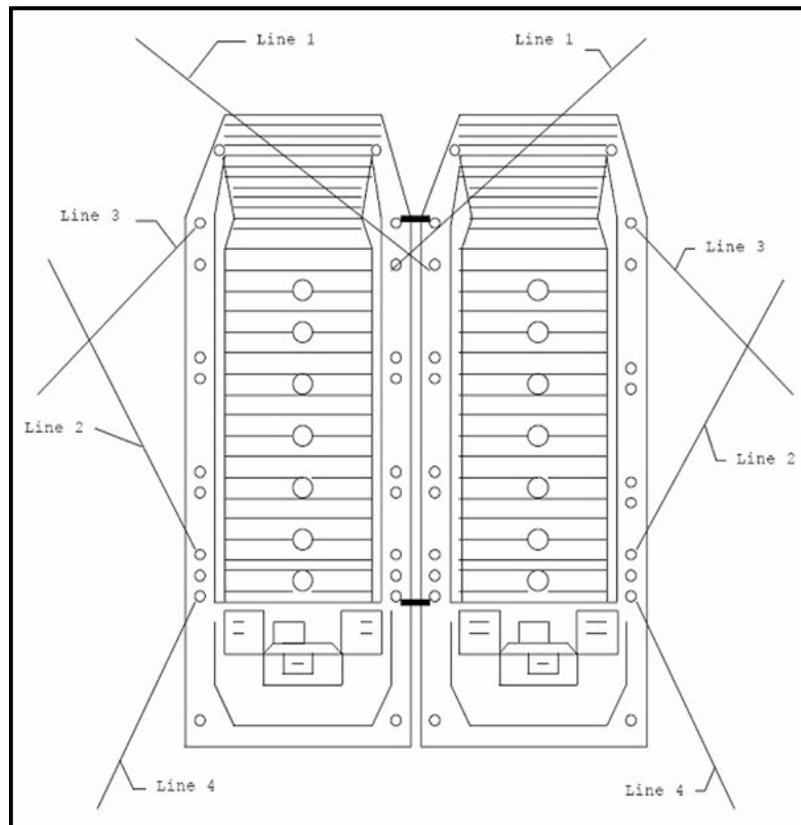

Figure 14-12 Line Handling Sequence for Married LCM 8
4. Pass over lines 2, 1, and 4 as displayed in figures 14-12 and 14-13. Sterngate may be raised to 45 degrees to minimize wave action.